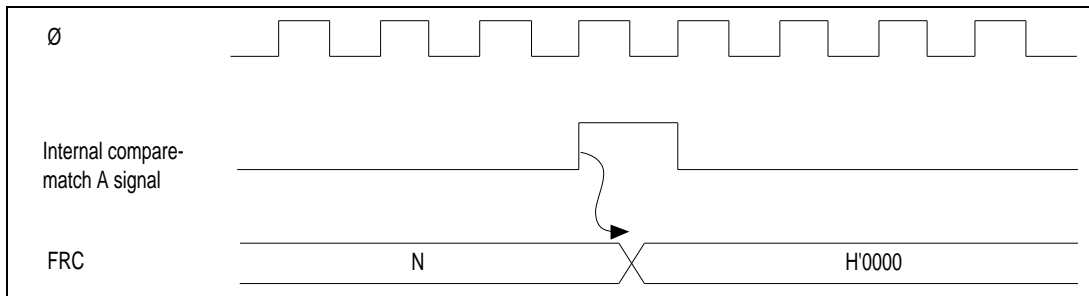

Figure 6-10. Clearing of FRC by Compare-Match A
(3) FRC Clear Timing: If the CCLRA bit in the TCSR is set to "1," the FRC is cleared when compare-match A occurs. Figure 6-10 shows the timing of this operation.